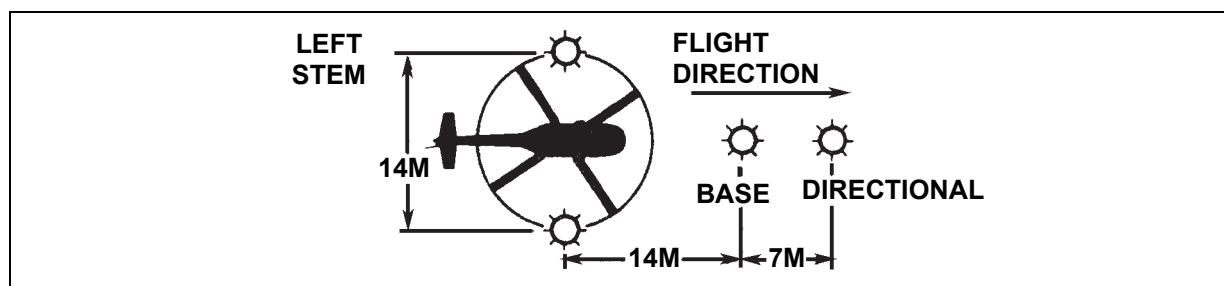

Figure 4-11. Inverted "Y" Light Formation
- **The Inverted "Y" Light Formation.** The inverted "Y" light formation is set up using four lights positioned according to figure 4-11. The cargo is placed between the two stem lights and aligned with the base and directional lights. The single aircraft or lead aircraft in a formation flight will touch down or hover into the "Y," midway between the legs of the "Y."